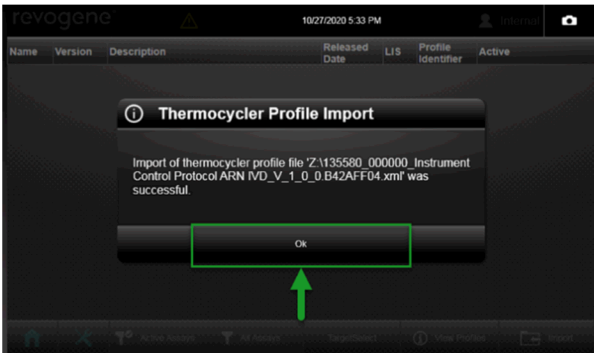

Figure 10. Instrument Control Protocol (.xml) Import Confirmation
5. A window will appear stating that the Instrument Control Protocol also named Thermocycler Profile (.xml) file was imported successfully. Tap <OK>. (Figure 10)